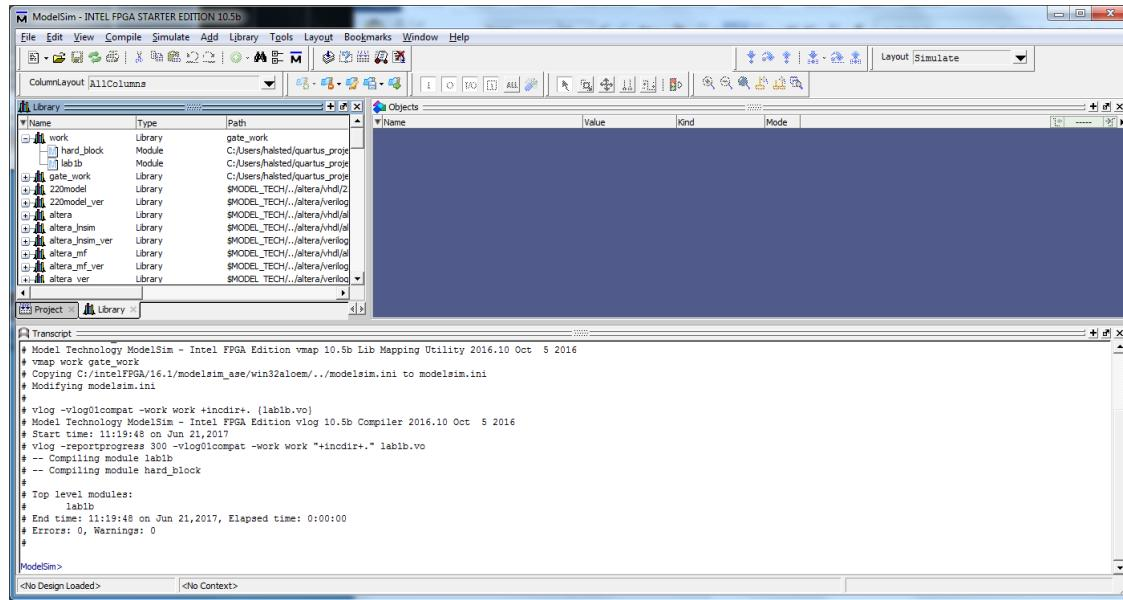

Figure 10. ModelSim-Altera
- ModelSim will open and your design will be automatically transferred to ModelSim. Verify this by looking at **"work"** folder in the Library list window. If the Library window is not open, select **View > Library** to open it. Click on the **+** to expand the work library. You should see your lab1 project name, which is a Verilog netlist output file, in the **work** Library, as shown in Figure 10.